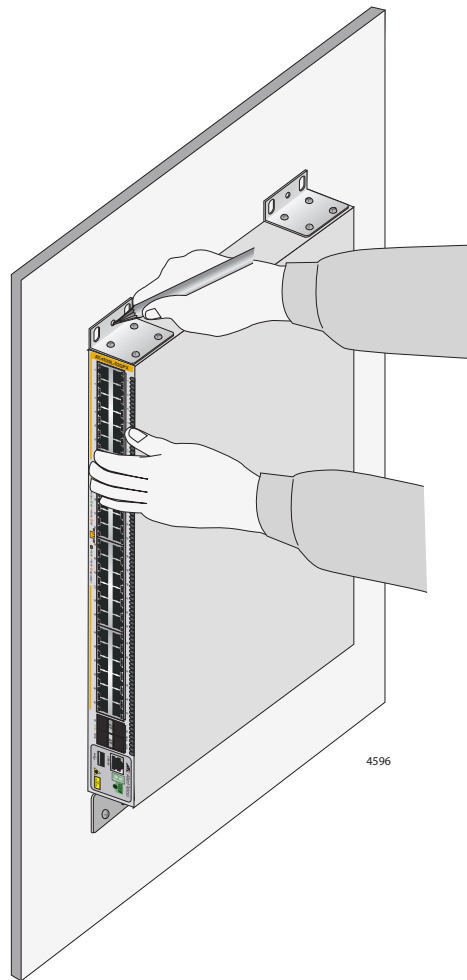

Figure 35. Marking the Locations of the Bracket Holes on a Concrete Wall
3. After attaching the brackets, have another person hold the switch on the concrete wall at the selected location for the device while you use a pencil or pen to mark the wall with the locations of the four screw holes in the four brackets (one screw per bracket). Refer to Figure 35 on page 81.